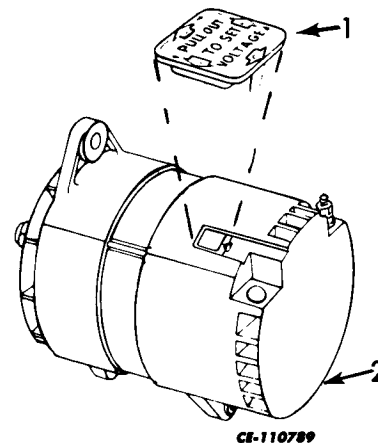

Fig. 27. Integral Regulator Voltage Adjustment
1. To adjust the integral regulator setting remove voltage adjustment cap (1, Fig. 27) from alternator.